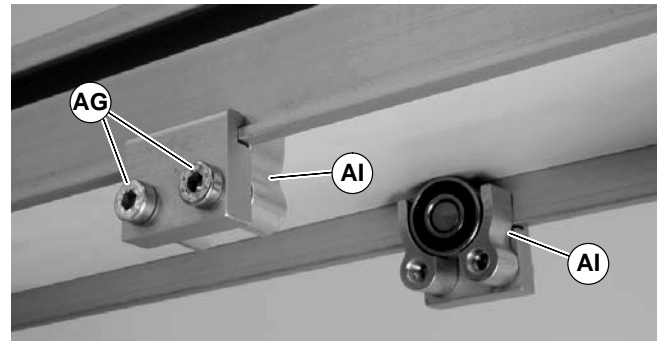

Figure 13
3. Install roller assemblies (AI of Figure 13) as shown. Tighten screws (AG) to 60 in-lb (7 Nm).